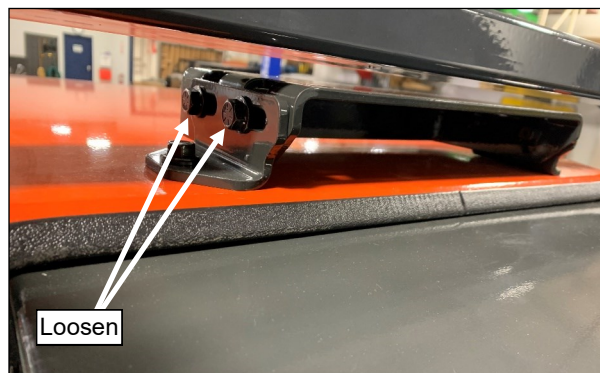

Fig. 5.12 (Loosen Upper ROPS Mount)
5.12 See fig. 5.12. Loosen the 4 factory installed 5/16" bolts securing the upper ROPS mount so that the mount can slide up against the underside of the ROPS.